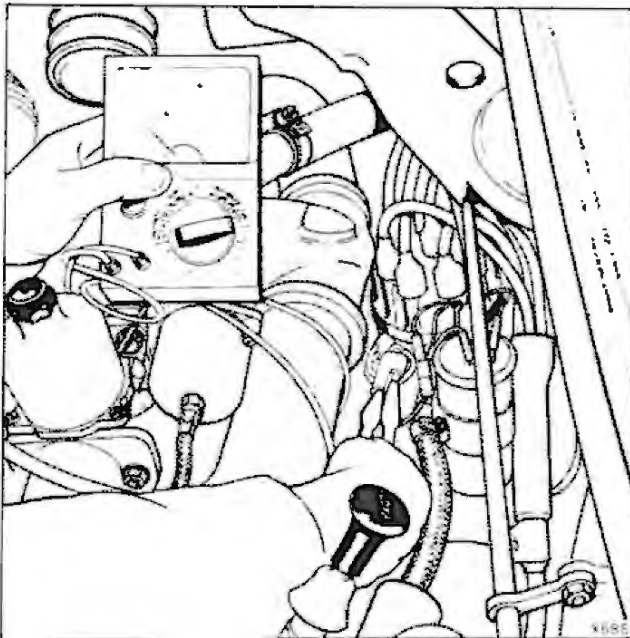

Fig. 4
- 5d. Crank the engine and observe the meter needle. This should display a pulsing movement of approximately 0.5 volts AC, assuming the starter motor is operating at normal speed and the battery is not discharged (see fig. 4).